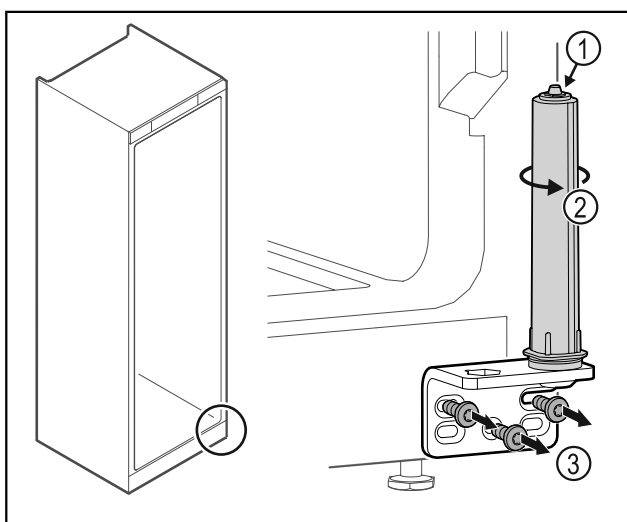

Fig. 40
- Do not disassemble the door closing system Fig. 40 (1).
- Turn the closing system Fig. 40 (2) until it clicks.
- Unscrew the hinge Fig. 40 (3).